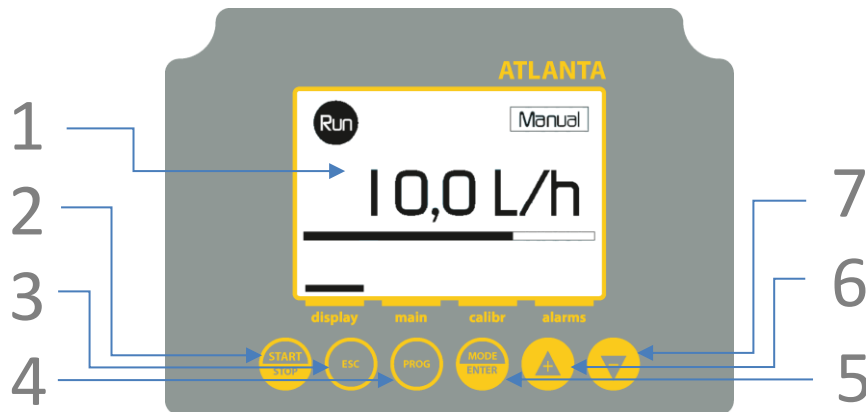
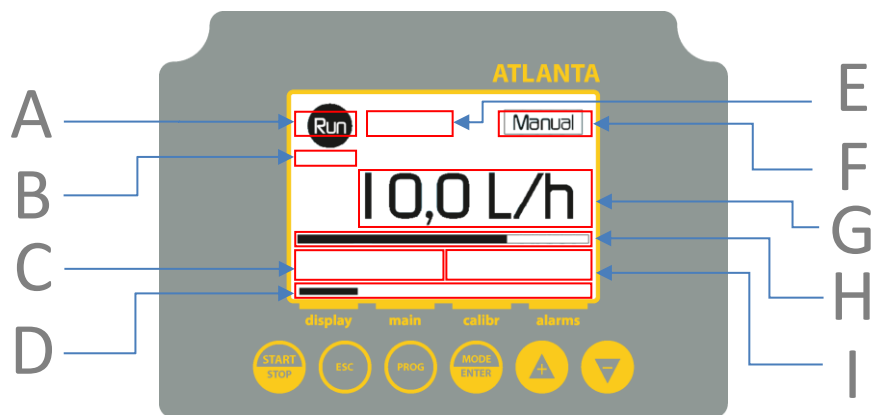

Figure 1 – Electronic Control Unit Interface
Figure 2 – Graphic Display - Subdivision Areas
See ANNEX B: INSTALLATION SUGGESTIONS TABLE for fig. 1 – 13.
- Install pipe as short as possible (fig. 1) and avoid tortuous paths (fig. 2)